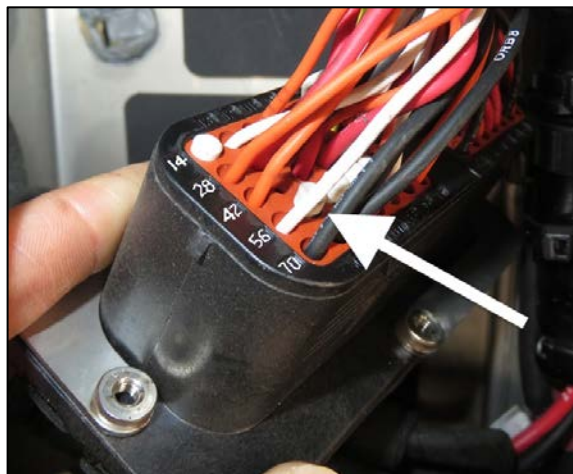

Figure 33
62. Locate position 41 on the male connector C21 (Figure 33).
65. Reinstall male connector C21 at its location with the Phillips screws (4).